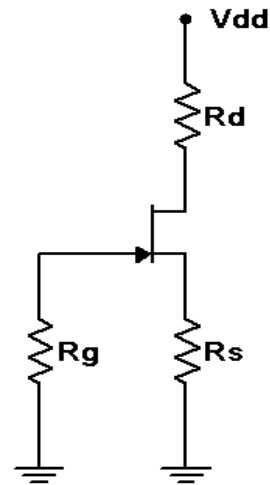

Figure 15.2
3. Consider the circuit of Figure 15.2 using  $V_{dd} = 15$  volts,  $R_g = 330 \text{ k}\Omega$ ,  $R_d = 4.7 \text{ k}\Omega$ , and  $R_s = 2.2 \text{ k}\Omega$ . Using the values of Table 15.1, calculate and record the expected voltages for JFET 1 in Table 15.2. Also record the expected drain current in Table 15.3.
4. Build the circuit of Figure 15.2 using  $V_{dd} = 15$  volts,  $R_g = 330 \text{ k}\Omega$ ,  $R_d = 4.7 \text{ k}\Omega$ , and  $R_s = 2.2 \text{ k}\Omega$ . Measure and record the voltages for JFET 1 in Table 15.2. Based on  $V_D$ , compute and record the experimental drain current in Table 15.3. Also determine and record the drain current deviation.